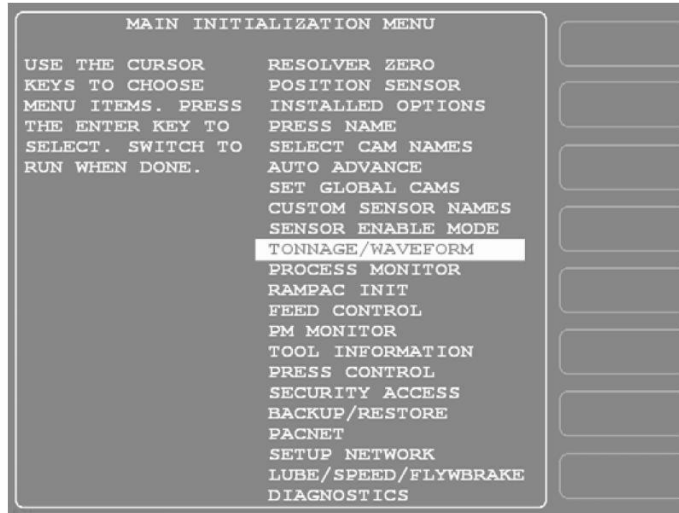
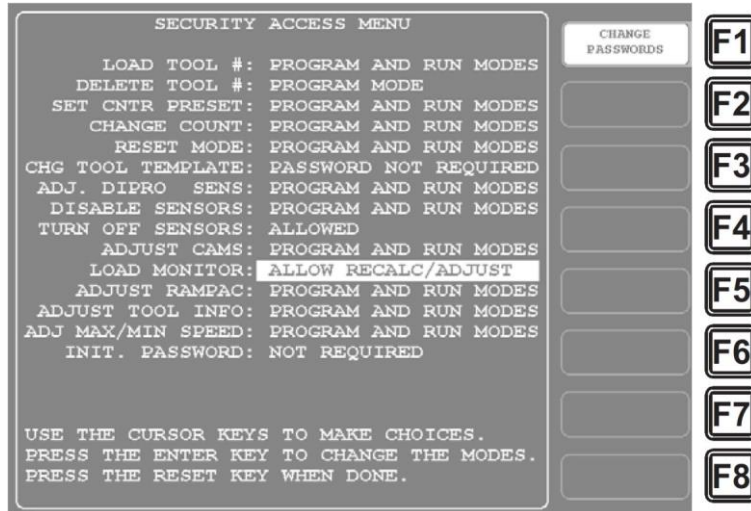

Figure 3-2. SmartPAC 2 Main Initialization Menu
Figure 3-9. Security Access Menu with Load Monitor Setting Highlighted
<p>Access Original SmartPAC or SmartPAC 2 Initialization Menu</p>	<ol style="list-style-type: none"> 1. Turn the Program/Run key on the SmartPAC front panel to “PROG.” 2. Press the “1” and “CLEAR” keys simultaneously for one second. The Main Initialization Menu appears (SmartPAC 2 is Figure 3-2, below; original SmartPAC is similar). The screen you see may be slightly different depending on your installed options.
1. Select “SECURITY ACCESS” on the Main Initialization Menu (see Figure 3-2). A screen like the one shown in Figure 3-9 displays. (The items on your menu may differ depending on installed options.) Note that the LOAD MONITOR item shown in Figure 3-9 is set to “ALLOW RECALC/ADJUST,” a setting that allows the operator to recalculate and adjust setpoints in Run mode. This is the factory setting.
1. Select “DIAGNOSTICS” on the Main Initialization Menu (see Figure 3-2) to display the Diagnostic Menu.